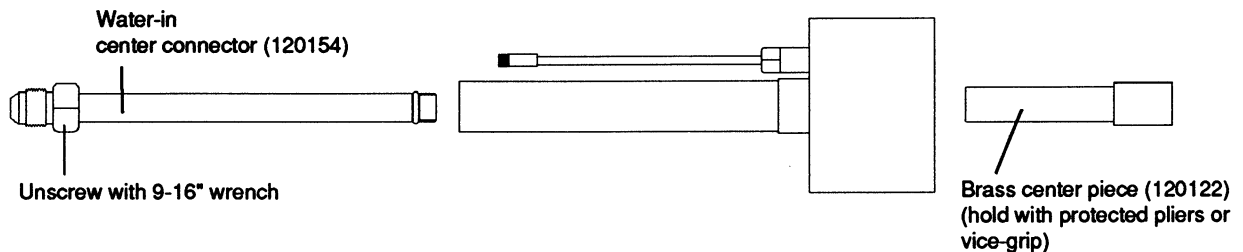
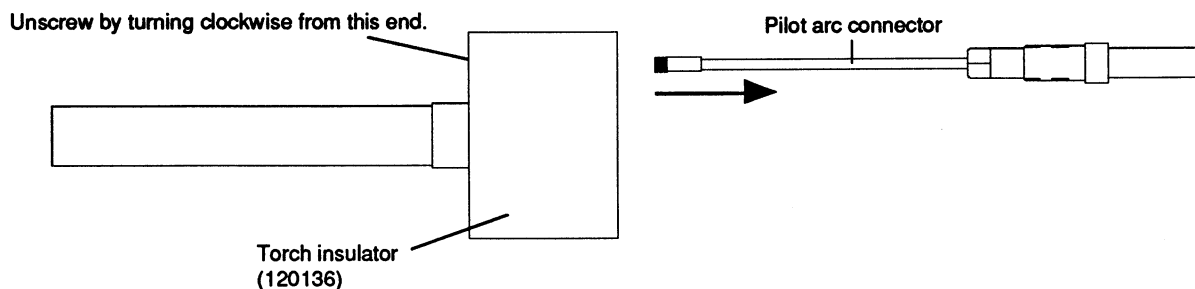

Figure 7 Removing Water-In Center Connector from Torch Insulator
Figure 8 Removing Pilot Arc Connector from Torch Insulator
4. Unscrew pilot arc connector from torch insulator by turning clockwise on the hex portion of the connector until the connector drops out the other end. See Figure 7 for before and Figure 8 for after pilot arc connector removal.